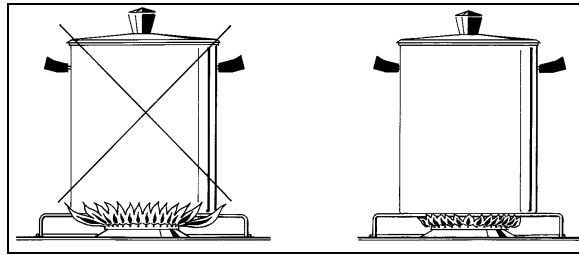

Fig.15
- Use suitable pans for each burner (see tab. n° 4 and Fig. 15).